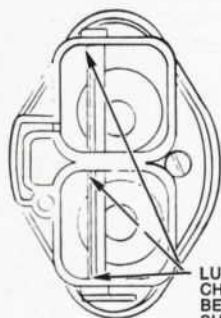

FIGURE 1:
- The three choke shaft bearing surfaces (see Figure 1)